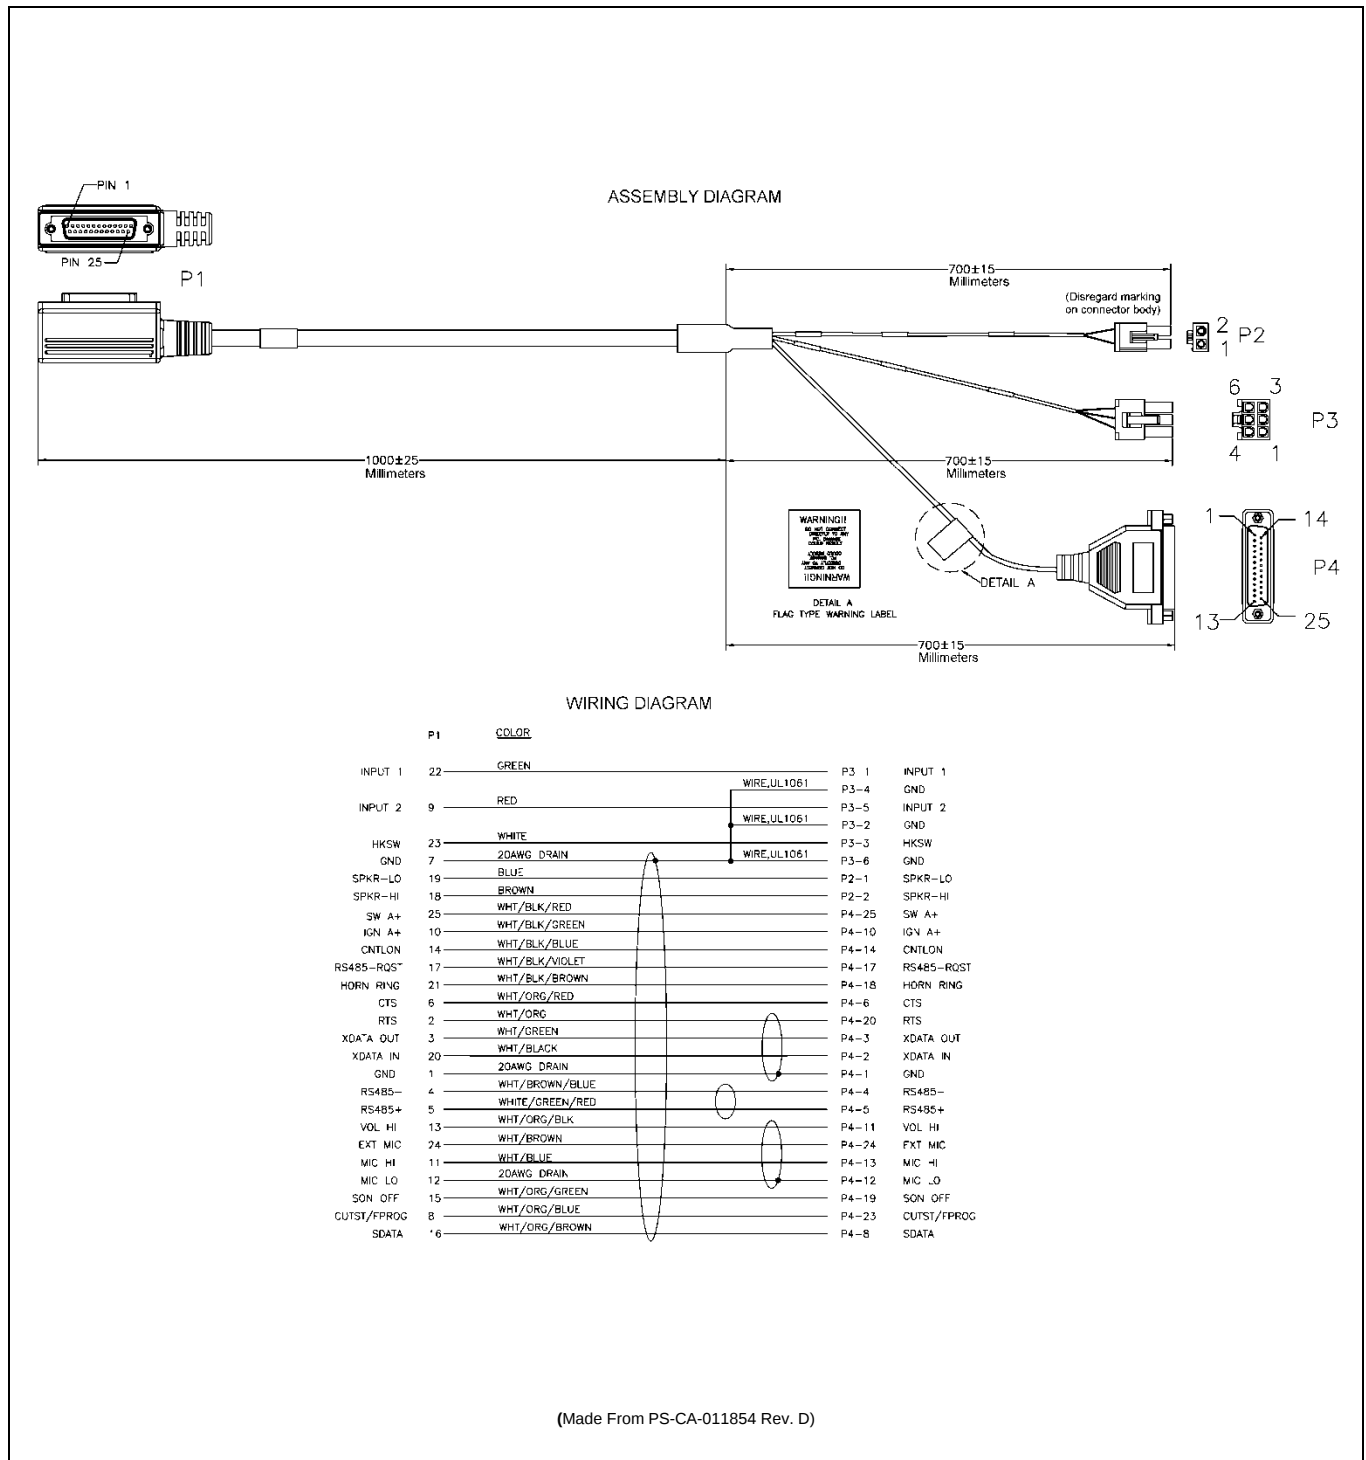

Figure 13-4: CH-721 Option Cable CA-011854-001
CH-721 Option Cable CA-011854-001 can be used to connect optional equipment to the 25-pin D-subminiature (DB-25) connector on the rear of the CH721. This cable expands the connections available at the 25-pin connector to three (3) separate connectors. The cable's assembly and wiring diagrams are shown in Figure 13-4 below.